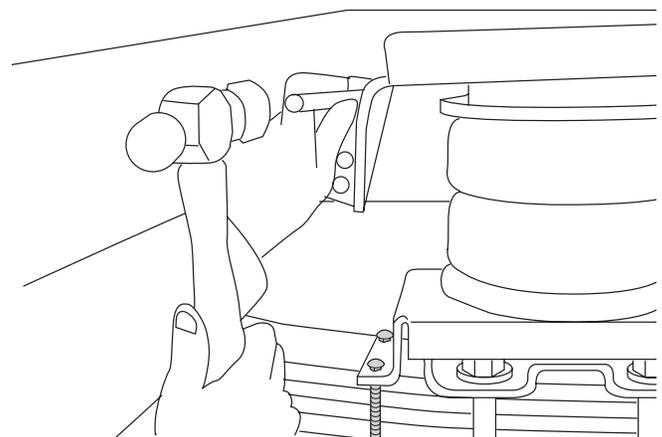

Fig. 7
5. Clamp the upper bracket to the frame rail with a C-clamp or welding clamp and center punch one mounting hole (Fig. 7).